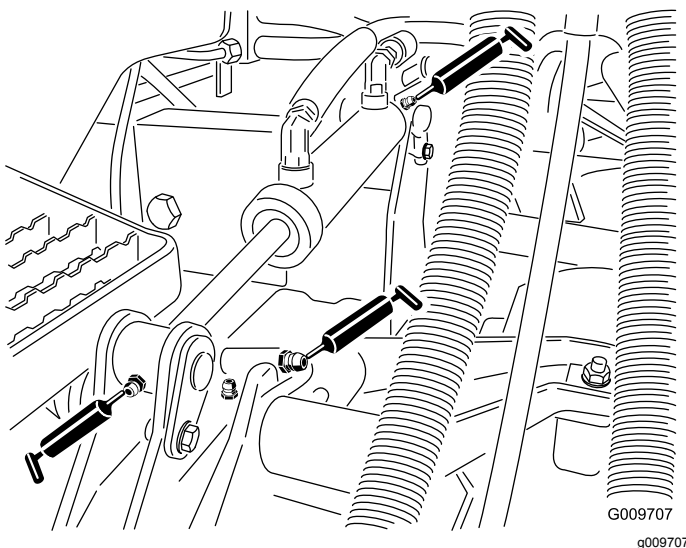

Figure 23
- Lift arm bushings (1 per deck) (Figure 23)
- Lift cylinder bushings (2 per deck) (Figure 23)